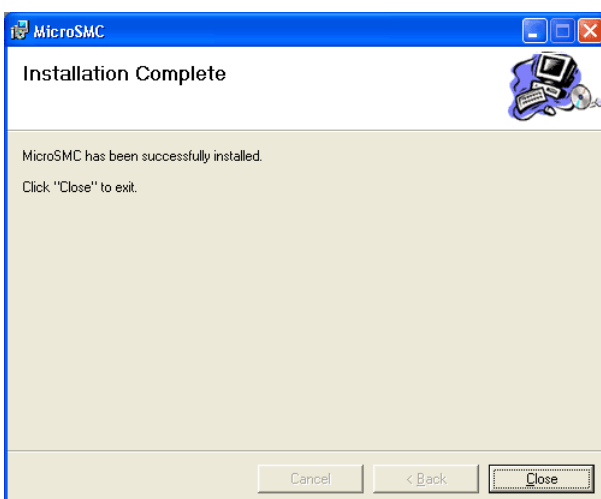

Figure 51. MicroSMC last installation screen
- Press "Close" to complete the installation (see Figure 51).